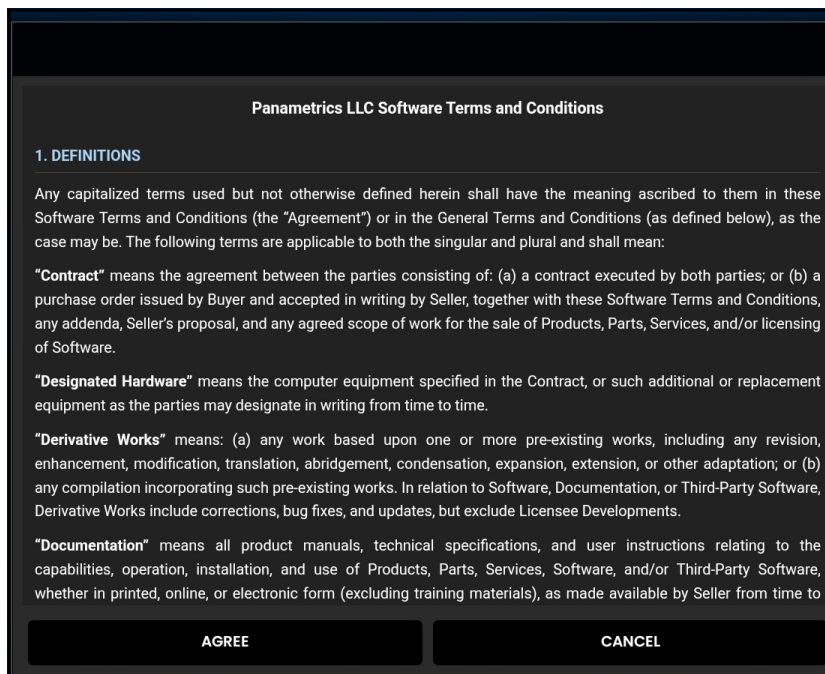

Figure 60: PT900 APP License Agreement
4. At the License Agreement screen (see *Figure 60* below), read the agreement and then click AGREE to continue with the APP installation or click CANCEL to stop the APP installation.